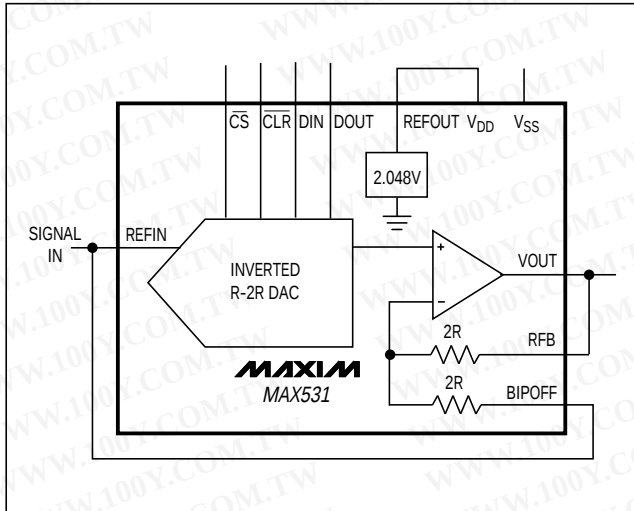

Figure 9. MAX531 Connected as Four-Quadrant Multiplier. The unused REFOUT is connected to VDD.
The MAX531 can be used as a four-quadrant multiplier by connecting BIPOFF to REFIN and RFB to VOUT, using (1) an offset binary digital code, (2) bipolar power supplies, using dual power supplies, and (3) a bipolar analog input at REFIN within the range $V_{SS} + 2\text{V}$ to $V_{DD} - 2\text{V}$, as shown in Figure 9.